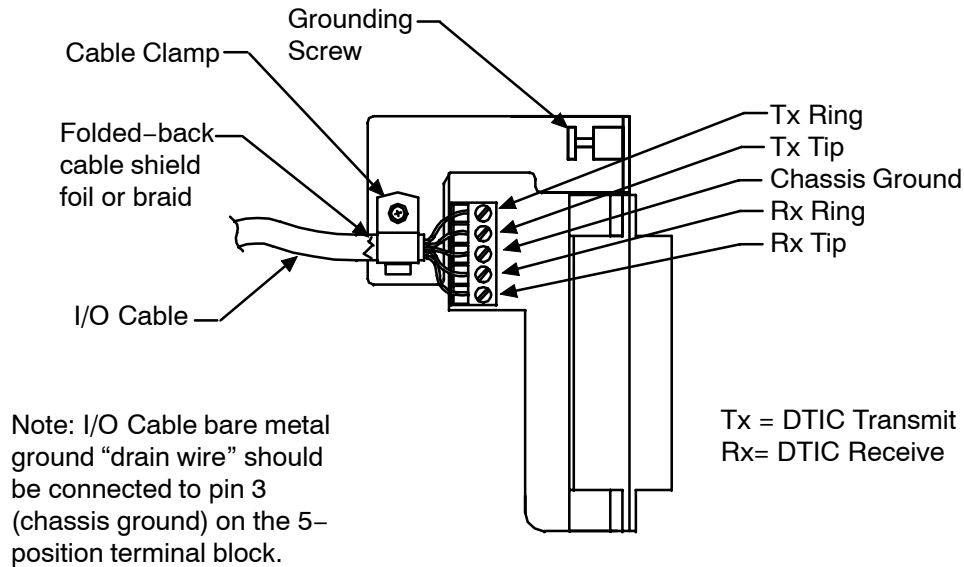

Figure 9-14 120-ohm DTIC-E1 Adapter
- b. Connect the conductors from the I/O cable to the 120-ohm adapter as shown in Figure 9-14.